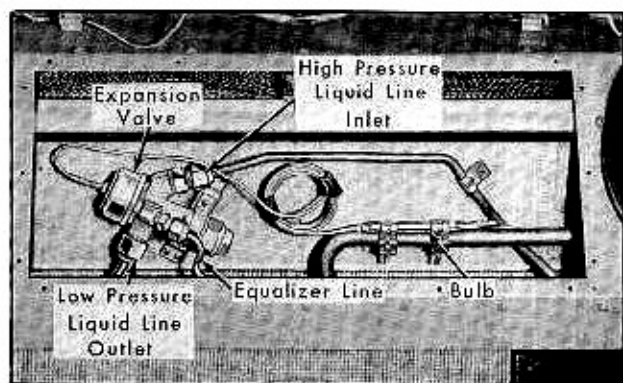

Fig. 16A-30 Expansion Valve Connections
3. Disconnect the power element bulb from the low pressure line. Fig. 16A-30.